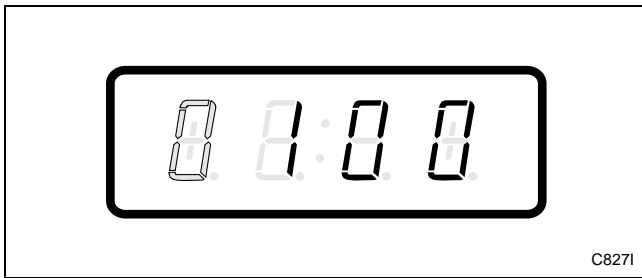

Figure 7
6. Press the START (enter) keypad to enter the fifth digit and display remaining four digits. The active digit will flash one second on and one second off. Refer to *Figure 7*.